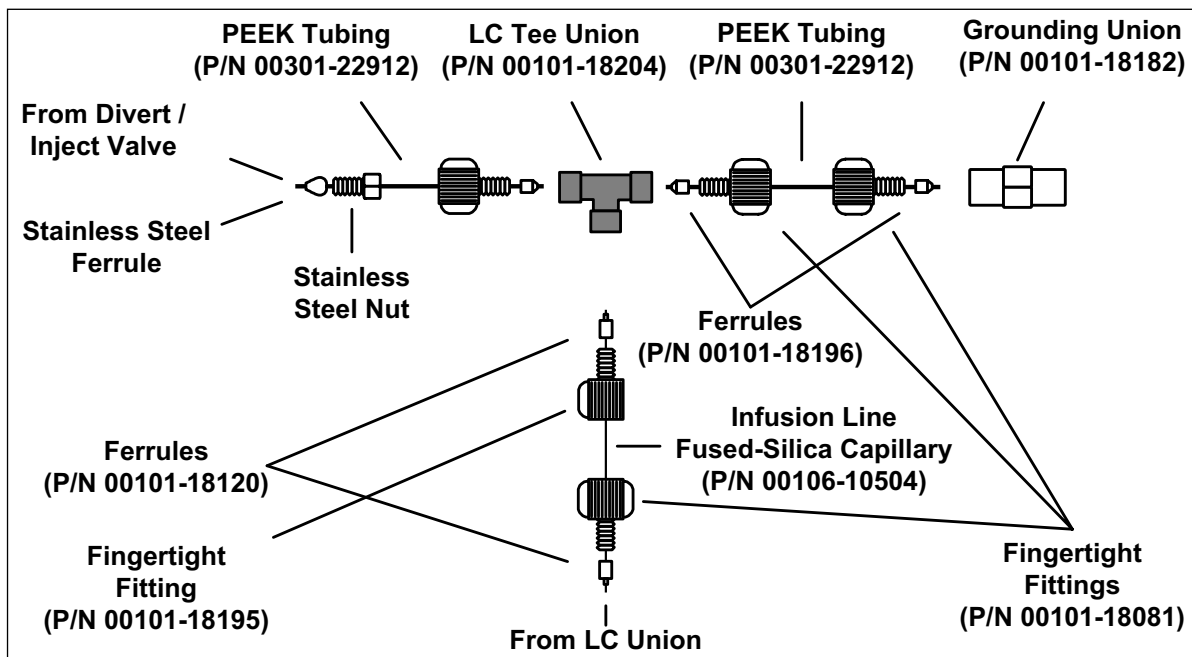

Figure 56. APCI/MS plumbing connections for the LC Tee union
4. Connect a fused-silica infusion line from the (black) LC union to the (black) LC Tee union, as follows. See Figure 56.
5. Connect a segment of PEEK tubing from the (black) LC Tee union to the APCI LC inlet, as follows. (See Figure 56.)
6. Connect an appropriate length of PEEK tubing (transfer line from the divert/inject valve) from the divert/inject valve to the LC Tee union, as follows. (See Figure 56.)